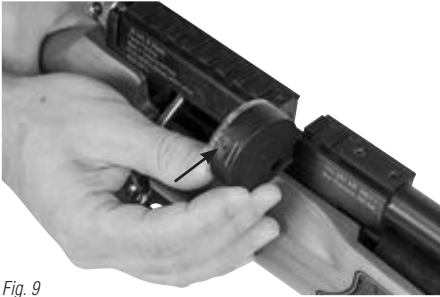

Fig. 9
5. With the transparent cover facing the butt of the rifle insert the magazine from the right side of the rifle and push it inwards all the way in until it's fully in place. (Fig.9 & 10)